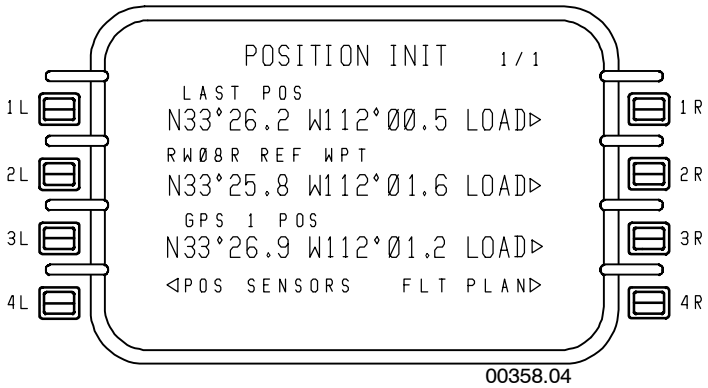

Figure 4-44
- **Position INIT 1/1** – Figure 4-44 displays the coordinates for the selected runway and makes them available for loading. Refer to page 6-175 for additional details on position initialization.